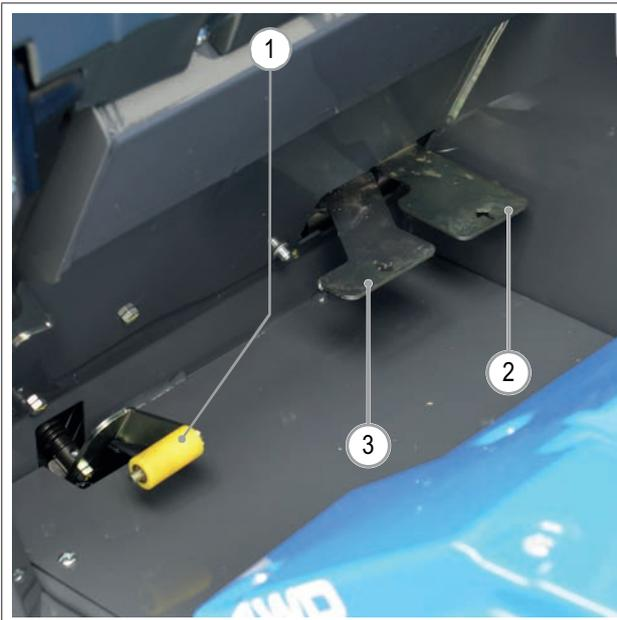

FIG. 19
BEFORE STARTING THE MACHINE IT IS COMPULSORY TO CHECK ALL THE COMMANDS ARE IN NEUTRAL POSITION AND THAT THE PARKING BRAKE WAS INSERTED, PARTICULARLY CHECK THAT THE HYDRAULIC FLOW CONTROL PEDAL OF QUICK CONNECTIONS (FIG. 19 - REF. 1) IS IN "CENTRAL" POSITION (ATTACHMENT OFF).
- 4) Press the proportional pedal relative to the direction of "Forward" (FIG. 19 - Ref. 2) or "Reverse" (FIG. 19 - Ref. 3).